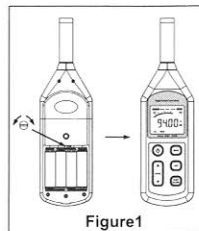

Figure1
3. Turn on the Calibrator and adjust the Potentiometer inside the battery compartment of the unit (shown in the Figure 1), until the LCD display the desired Level 94.0dB.